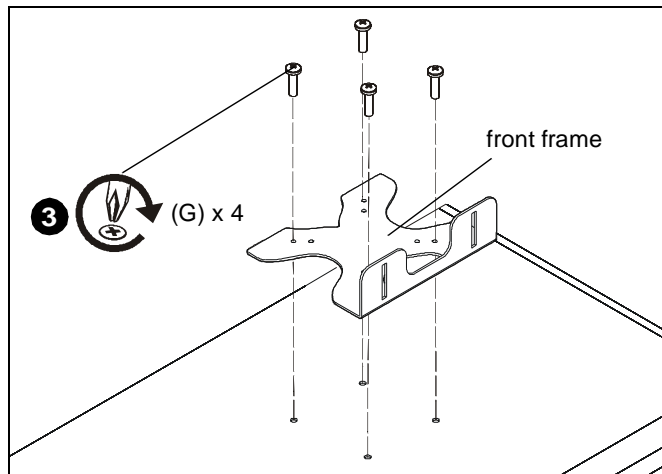

Figure 2
- Using Phillips screwdriver, carefully install four M4x12mm screws (G) through corresponding holes on front frame and into the mounting holes on the display. (See Figure 2)